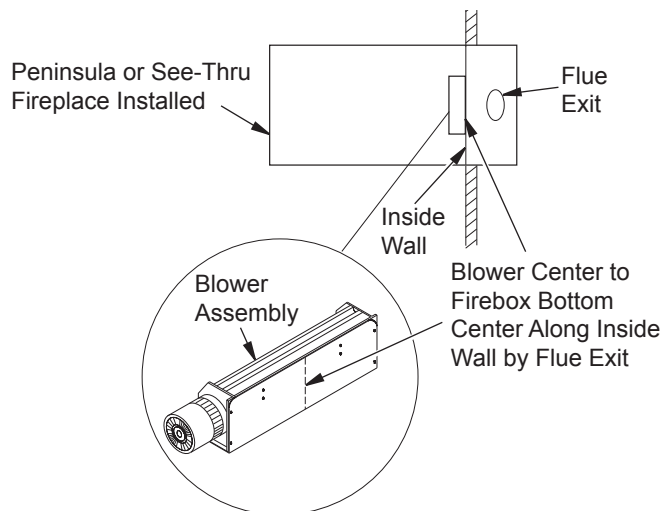

Figure 1 - Blower Assembly Placement
2. Place blower assembly so it rests flush against the inside wall on the flue exit side of the firebox (see Figure 1). There are four magnets on the bottom of the blower assembly that will keep the blower in place on firebox bottom. **Note:** If the blower kit is not installed flush against the inside side wall of the fireplace, the circulating air from the blower system will not flow properly.